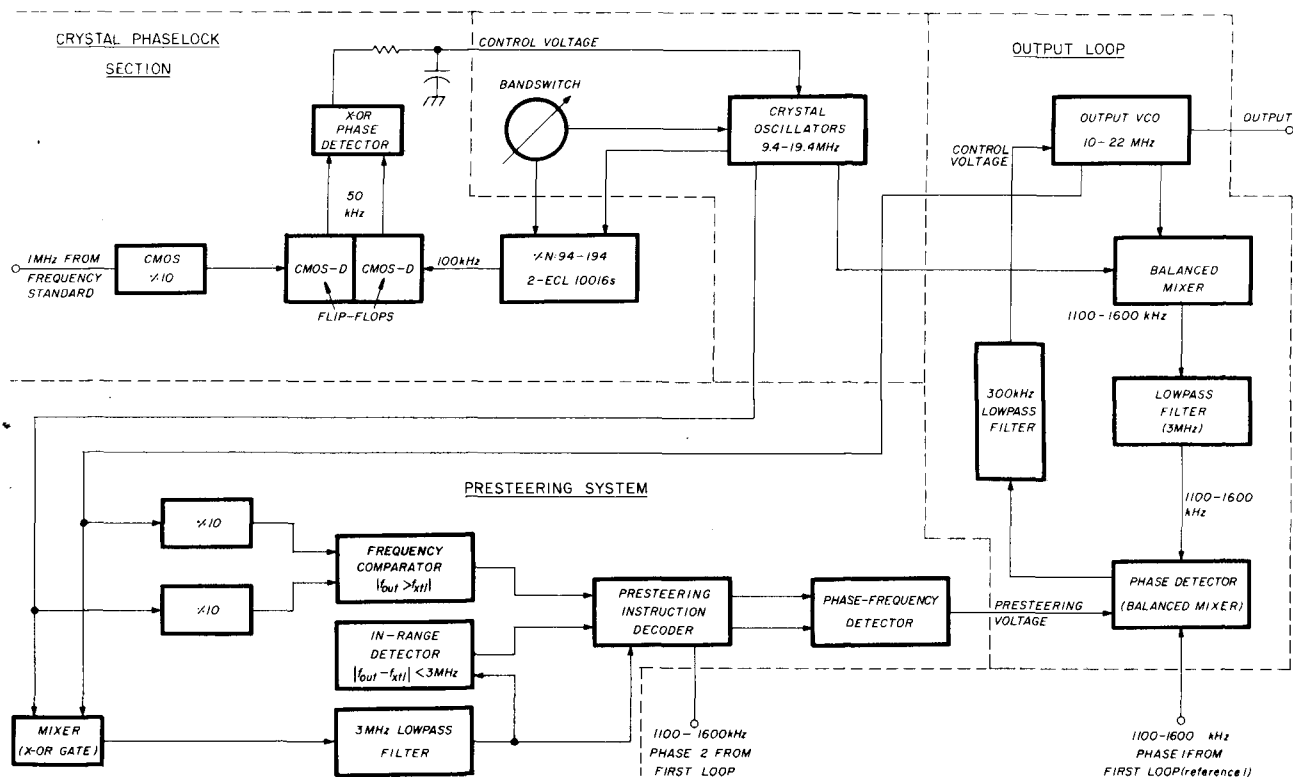

fig. 1. Up-converter block diagram.
For coverage of the high-frequency Amateur bands in 500-kHz segments, the VFO signal must be translated to a higher frequency for each band without degrading the phase noise performance. The output frequency is the sum of the first loop1 output frequency and that of a stabilized crystal oscillator. This frequency plan is shown in **table 1**. **Fig. 1** is a block diagram of the up-converter. The output loop works by first mixing the VCO signal with that of the crystal oscillator (XO) then phase comparing the 1100-1600-kHz result with the first loop output to produce the VCO control voltage. The presteering system ensures that the loop acquires lock and remains locked despite large temporary differences between the VCO and XO frequencies caused by bandswitching or sudden large frequency changes. Crystal-oscillator frequency accuracy is guaranteed by a simple divide-by- $n$  loop, with the phase detector operating at 50 kHz.